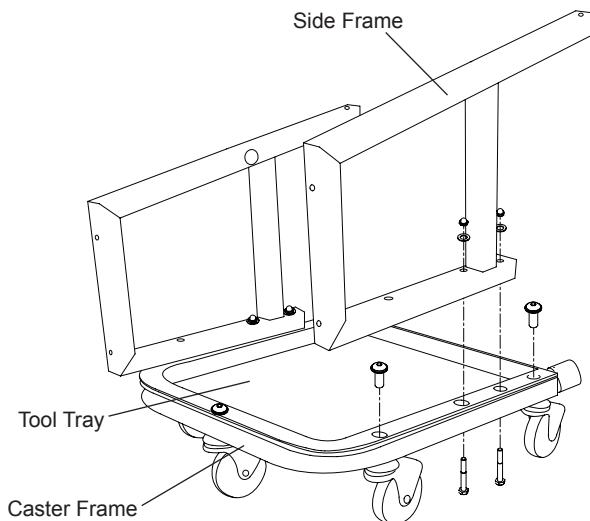

Figure 1 - Assembling tool tray and casters
1. Assemble tool tray and five casters to caster frame using Allen head binding barrels. Then attach two creeper side frames to caster frame with two M8 x 60 hex head bolts, two washers and two acorn nuts each (Fig 1).